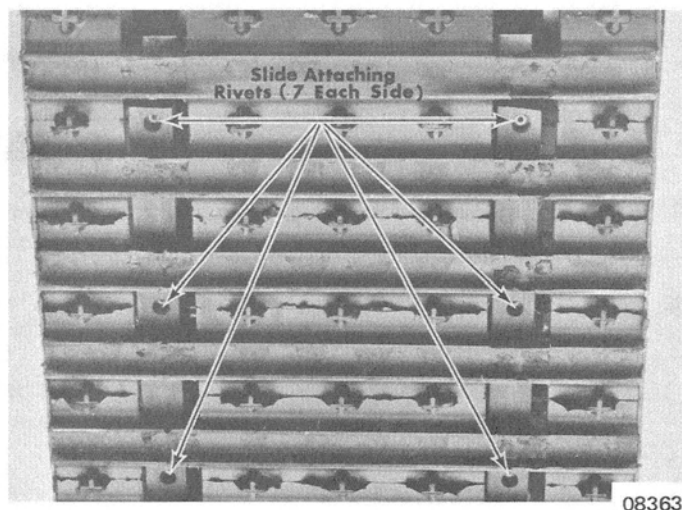

Figure 5. Slide Replacement
2. Use a 3/16" drill to drill thru and remove rivets (Figure 5) which attach slides to suspension frame. Remove and discard old slides from beneath suspension frame.